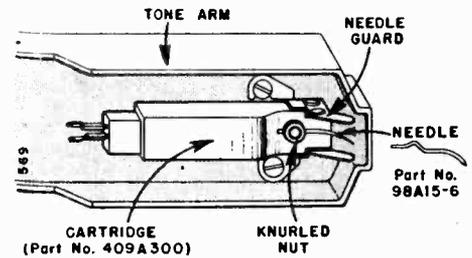

Figure 10. Cartridge 409A300 and Needle Detail.
In models having cartridge (27), part number 409A300, replace the needle (28), part number 98A15-6, by loosening the knurled nut (29) and withdrawing the old needle. Insert the new needle and tighten the knurled nut. See figure 10.